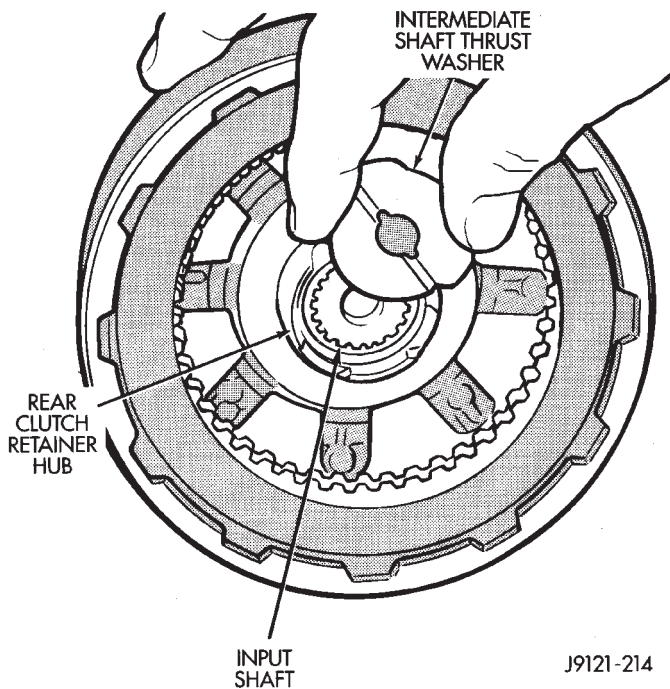

Fig. 171 Installing Intermediate Shaft Thrust Washer
(22) Coat intermediate shaft thrust washer with petroleum jelly. Then install washer in rear clutch hub (Fig. 171). Use enough petroleum jelly to hold washer in place. **Be sure grooved side of washer faces rearward (toward output shaft) as shown.** Also note that washer only fits one way in clutch hub. Note thickness of this washer. It is a select fit part and is used to control transmission end play.